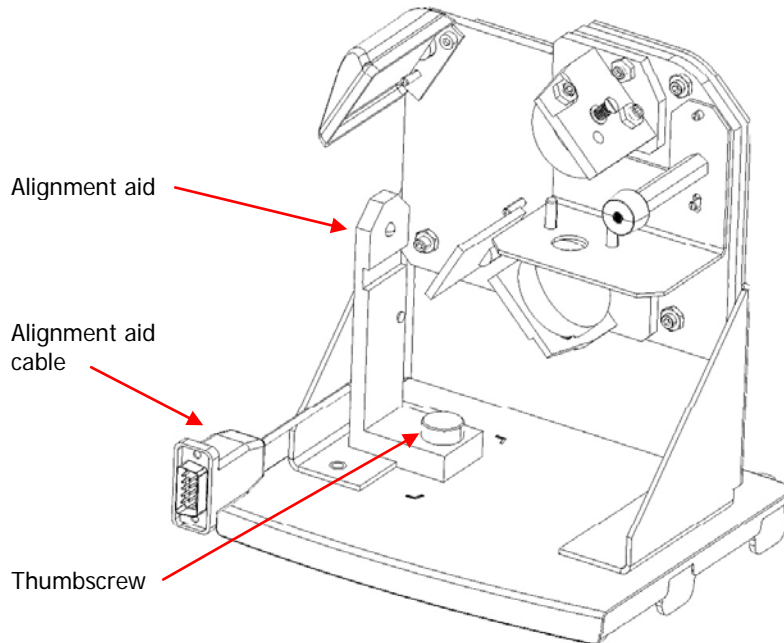

Figure 5 Beam condenser accessory with alignment aid in position
6. Install the alignment aid on to the beam condenser accessory by positioning it over the hole in the baseplate and tightening the thumbscrew firmly (see Figure 5).